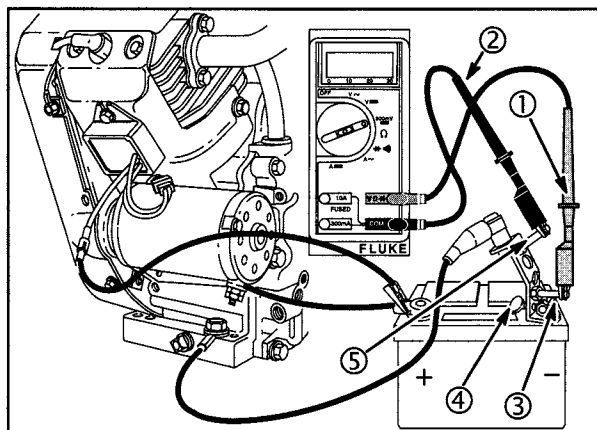

Fig. 28
The DC shunt **MUST** be installed to the **NEGATIVE (-)** terminal of the battery, **Fig. 28**. All connections must be clean and tight to obtain accurate readings.
3. Insert RED test lead (1) into **VΩ** receptacle in meter. Connect to RED post terminal (3) on shunt, **Fig. 28**.
4. Insert BLACK test lead (2) into **COM** receptacle in meter and connect to BLACK post terminal (5) on shunt.